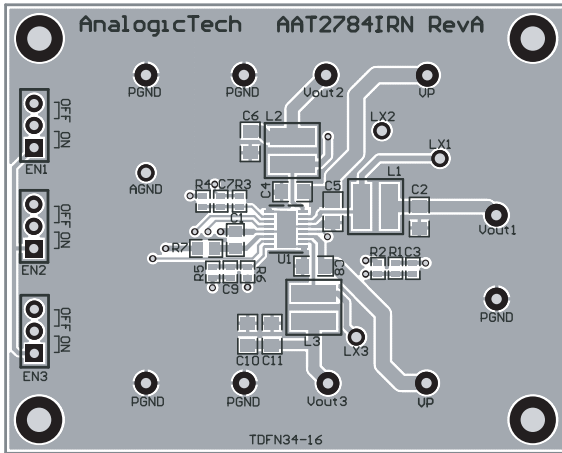

Figure 2: AAT2784 Evaluation Board Component Side Layout
The term $\frac{V_O}{V_{IN}}$ appears in both the input voltage ripple and input capacitor RMS current equations and is a maximum when V_O is twice V_{IN}. This is why the input voltage ripple and the input capacitor RMS current ripple are a maximum at 50% duty cycle. The input capacitor provides a low impedance loop for the edges of pulsed current drawn by the AAT2784. Low ESR/ESL X7R and X5R ceramic capacitors are ideal for this function. To minimize stray inductance, the capacitor should be placed as closely as possible to the IC. This keeps the high frequency content of the input current localized, minimizing EMI and input voltage ripple. The proper placement of the input capacitor (C1) can be seen in the evaluation board layout in the Layout section of this datasheet (see Figure 2). A laboratory test set-up typically consists of two long wires running from the bench power supply to the evaluation board input voltage pins. The inductance of these wires, along with the low-ESR ceramic input capacitor, can create a high Q network that may affect converter performance. This problem often becomes apparent in the form of excessive ringing in the output voltage during load transients. Errors in the loop phase and gain measurements can also result. Since the inductance of a short PCB trace feeding the input voltage is significantly lower than the power leads from the bench power supply, most applications do not exhibit this problem. In applications where the input power source lead inductance cannot be reduced to a level that does not
The suggested PCB layout for the AAT2784 is shown in Figures 2 and 3. The following guidelines should be used to help ensure a proper layout.
1. The power input capacitors (C5 and C8) should be connected as closely as possible to VP1_2, VP3 and PGND1,2,3 as shown in Figure 2. Due to the pin placement of VP1_2 and VP3 for all converters, proper decoupling is not possible with just one input capacitor.